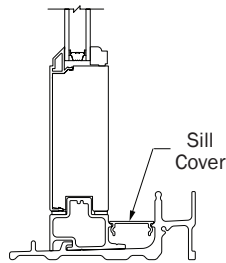

**Figure 15**
17. Once parting stop is in place, slide parting stop weatherstrip into parting stop T-slot (Fig. 15).